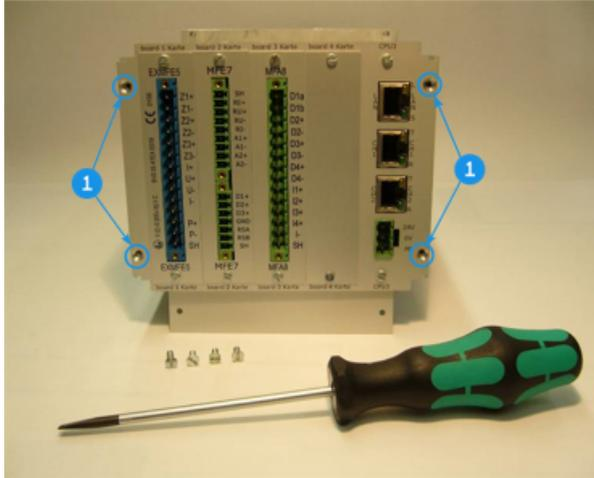

Fig. 6-2: Rear side of the device (example), mounting screws are removed
- ⇨ Fig. 6-2: Rear side of the device \(example\), mounting screws are removed (p. 53).
- ⇨ Fig. 6-2: Rear side of the device \(example\), mounting screws are removed (p. 53)